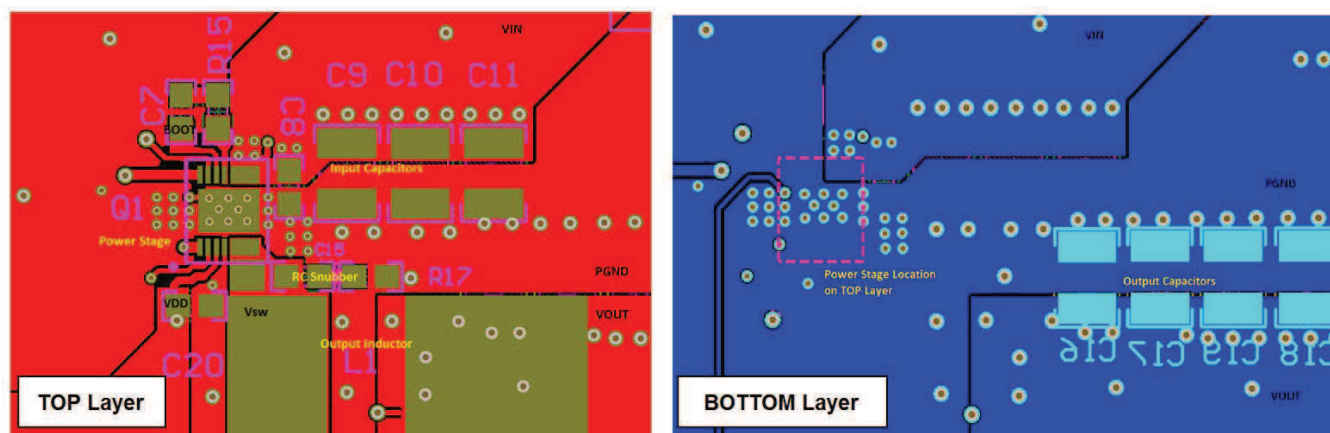

Figure 14. Recommended PCB Layout (Top Down View)
- The placement of the input capacitors relative to V_{IN} and P_{GND} pins of CSD95379Q3M device should have the highest priority during the component placement routine. It is critical to minimize these node lengths. As such, ceramic input capacitors need to be placed as close as possible to the V_{IN} and P_{GND} pins (see Figure 14). The example in Figure 14 uses 1 \times 1 nF 0402 25 V and 3 \times 10 μ F 1206 25 V ceramic capacitors (TDK part number C3216X5R1C106KT or equivalent). Notice there are ceramic capacitors on both sides of the board with an appropriate amount of vias interconnecting both layers. In terms of priority of placement next to the Power Stage C8, C9, C10 and C11 should follow in order.
- Use the smallest drill size allowed in your design. The example in Figure 14 uses vias with a 10 mil drill hole and a 16 mil capture pad.